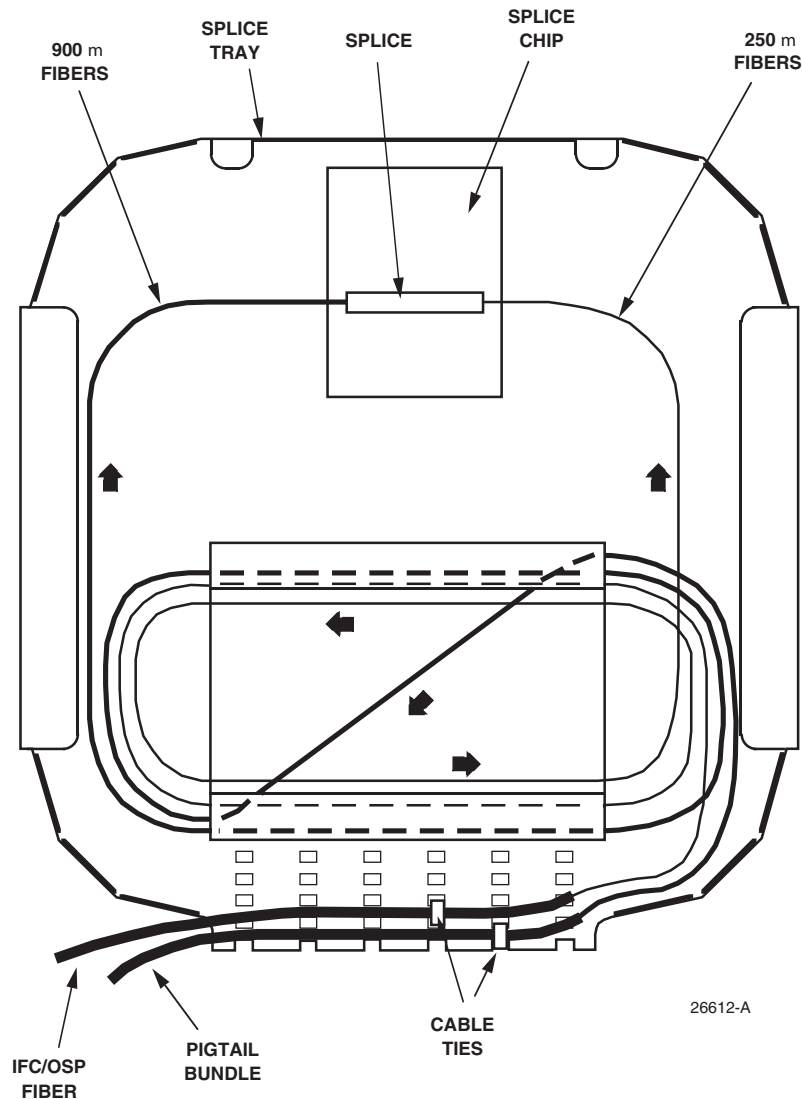

Figure 9. Fiber Routing in Splice Tray
- Secure the fiber bundles to the splice tray with tie wraps as shown in Figure 9. The tie wraps should secure the protective sleeve or jacket but must not pinch the fibers.
- Route the fibers on the splice tray as shown in Figure 9. The routing in the splice tray is dependent on the fiber entry direction (either from the left or the right).